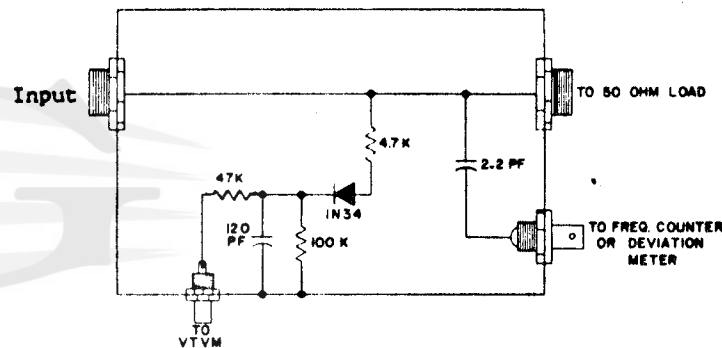

Figure 4-4. Relative Output Indicator
- i) Power Meter, 5-watts @ 500 MHz; or relative output indicating device (see Figure 4-4).
2. Attach a 50-ohm power meter, or a relative output indicating device (Figure 4-4), to transceiver antenna connector.
2. With a crystal installed and channel switch in corresponding position, connect a frequency-indicating device to transceiver --- either by loop coupling to final power stage or, by connecting to jack on relative output device (Figure 4-4).
1. Connect unit to relative output indicating device (Figure 4-4); then, connect a Deviation Meter to "Freq. Counter/Deviation Meter" output of the relative output indicator.